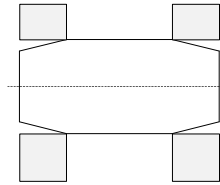

Fig. 2a
- 2.2 Fit the bolt in the joint so that the bolt's tapered end is even with the outside of the support (see Fig. 2a and 2b).